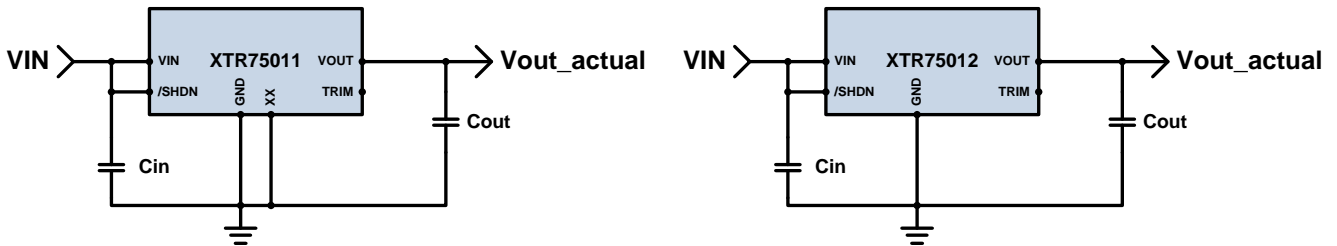

Figure 2. Untrimmed applications of the XTR75011 and XTR75012.
In the untrimmed application as shown in Figure 2, equation (1) can be rearranged to
This last sentence means that, for the untrimmed application shown in Figure 2, equation (2) can be rewritten as
The actual reference voltage inside a part can be obtained from the direct measurement of the untrimmed output voltage (see Figure 2) and equation (3).
In this example, it is supposed that a 5V output voltage is desired. Implementing the schematics of Figure 2 with the "XX" pin being the "5V" pin of the XTR75011, we obtain a measured untrimmed output voltage of 5.083V. Removing the XTR75011 from the test fixture and measuring the resistance between pin VOUT and 5V, we obtain  $(R_1+R_2)=138.8k\Omega$ . Repeating the operation between pins TRIM and 5V it is obtained  $(R_{TRIM}+R_2)=44.0k\Omega$ . Selecting  $R_A=100k\Omega$  and entering all values in the corresponding cells of the spreadsheet it is obtained that the needed  $R_B$  is 33.261kOhm. The closest value to 33.261kOhm from the E192 resistor series is 33.2kOhm. In the "Validation" section of the spreadsheet it is calculated the trimmed output voltage obtained with a valid value of  $R_B$ .